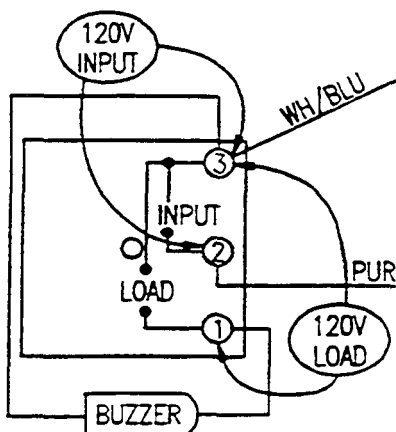

Figure 6-31. 3-Second Timer and Buzzer
4. Refer to Figures 6-31, 6-32, 6-33, and 6-44 and connect the voltmeter leads across timer terminals 1-3 (LOAD).
6. Refer to Figures 6-31, 6-32, 6-33, and 6-44 and connect the voltmeter leads across timer terminals 2-3 (INPUT). Check for 115/120 VAC across the test points.